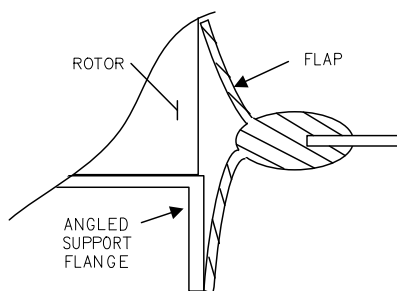

Figure 15 - Peripheral Seal, Edge View
4. If necessary, use your fingers and/or a non-metallic rounded object to unfold the peripheral seals, restoring them to their original position around the rotor so they provide a double barrier against mixing airstreams (see Figure 15).
NOTE: The flaps of the seal spreads outwards towards the center of the rotor and towards the outer edge against the angled support flange (see Figure 15). Ensure the flaps are not folded over.